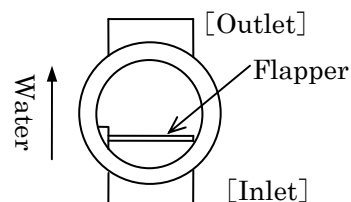

Fig. 9 Direction of flow in the sight glass
- (1) Always check the water inlet and outlet of the motor when piping.
- (2) Install the recommended sight glass, flow switch and strainer at the water inlet of the motor. The sight glass has a specific direction of fluid flow, so take care not to install it in the wrong direction. (See Fig. 9).
- (3) Use industrial water for cooling water. Do not use anything other than water.